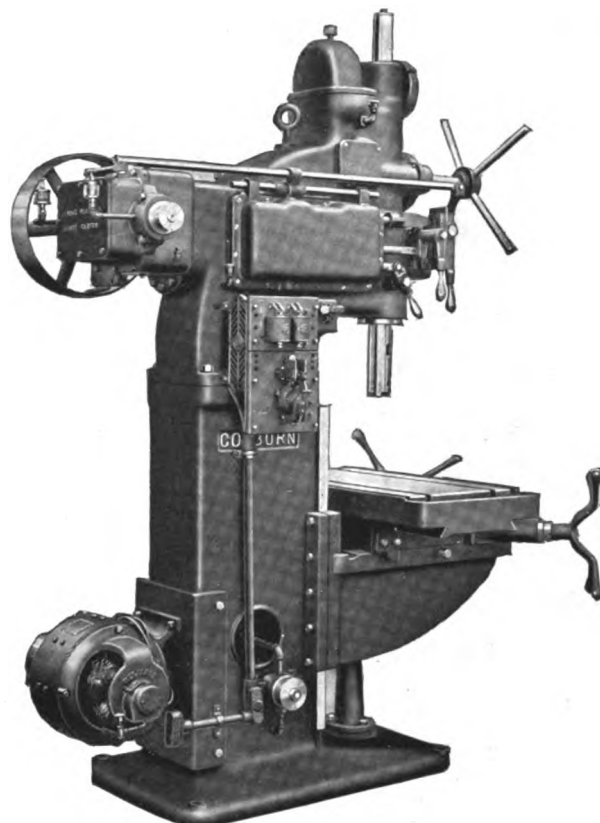

FIG. 7. NO. 14 "STANDARD" HEAVY DUTY DRILL PRESS WITH MOTOR DRIVE, COMPOUND TABLE AND TAPPING ATTACHMENT
**MOTOR DRIVE**—A constant speed motor is mounted directly on lower part of column (Fig. 7), at the rear on single machines, and belted to tight and loose pulleys. Any size motor, 5 to 7½ h.p., may be used, depending upon the work to be performed. Speed of motor about 1200 r.p.m. A ball bearing countershaft is furnished for motor driven gang drills. Individual heads are driven from this countershaft by open belts. The following constant speed motors are recommended for gang drills: two spindle, 7½ h.p., three spindle, 10 h.p., four spindle, 15 h.p. Speed of motor (1200 r.p.m.) same as for single spindle drill.